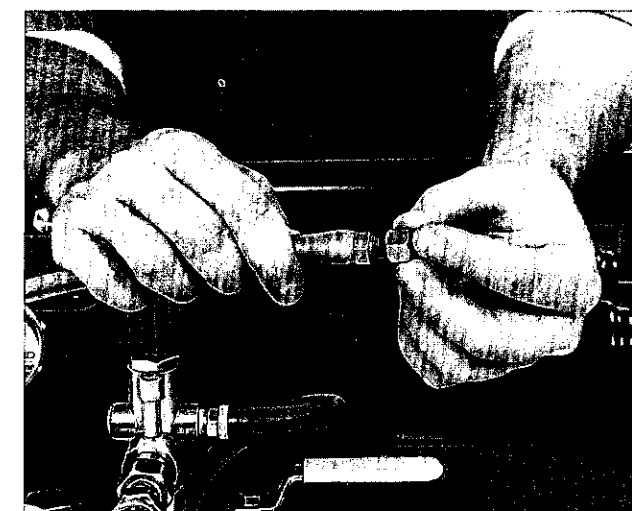

Figure 4. Attach a jetter nozzle to the jetter hose; hand tighten for a snug fit.
5. Attach a jetter nozzle to the jet hose. Hand tighten for a snug fit. Over-tightening can interfere with water flow through the thrusters causing reduced flow and poor performance. (Figure 4)